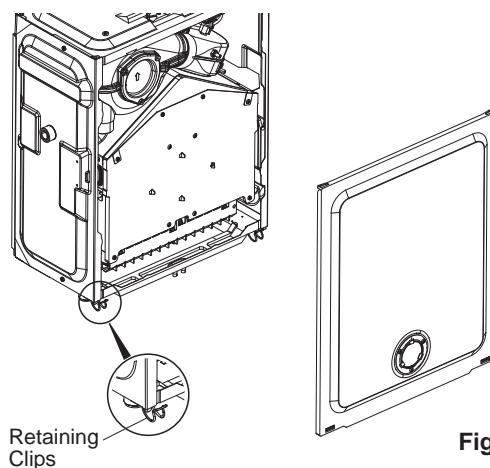

Fig. 26
8.5.6 Remove room sealed cover plate by releasing two lower retaining clips and easing cover off the top locating hooks. Inspect gasket for damage. If damaged, replace (see fig. 26).